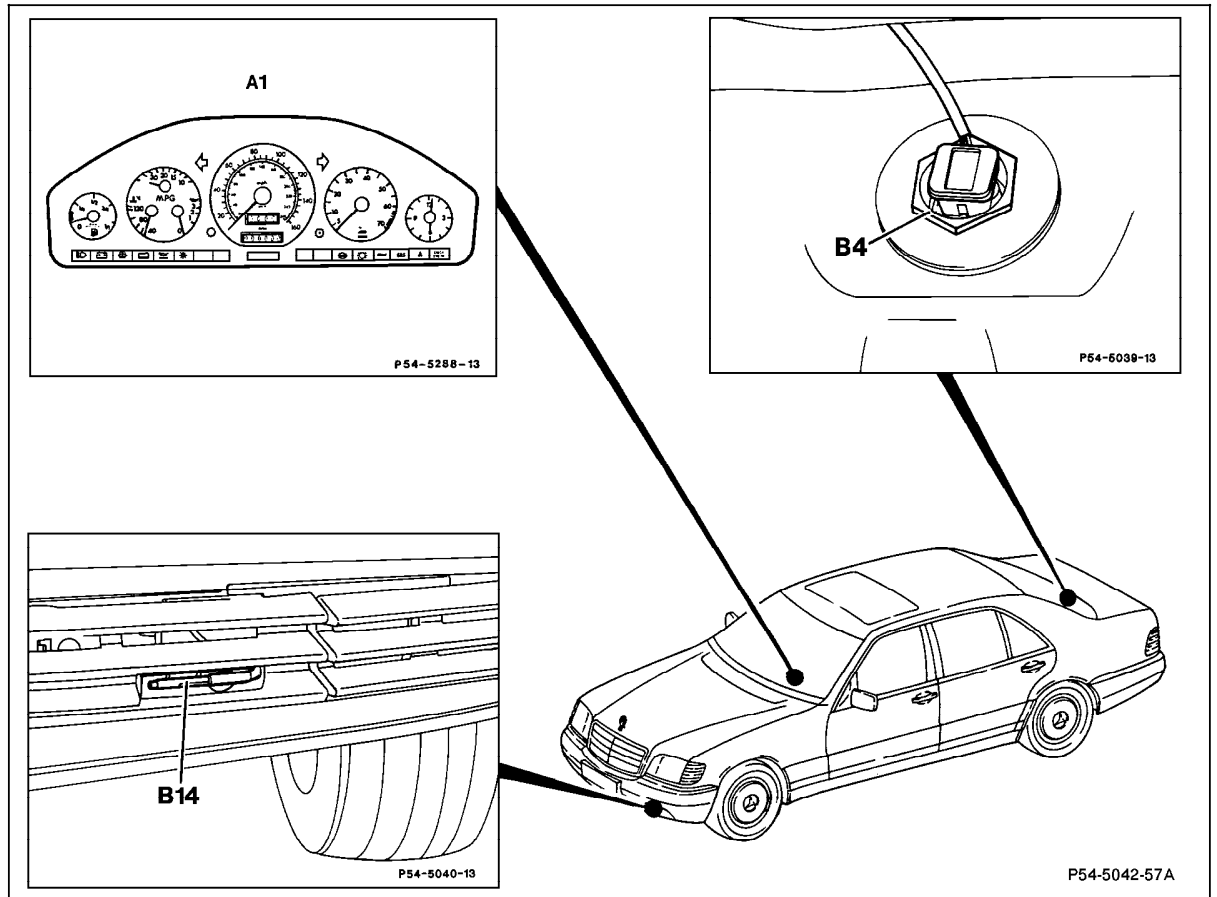

Figure 1
- Depress center of clock adjusting knob “A” ( 23 Fig. 1) for at least 5 seconds and the first test mode display will appear in the outside temperature display window.
- Pull out clock adjusting knob “B” and turn clockwise ( 23 Fig. 1) to activate the next test mode. For each additional test mode, the clock adjusting knob “B” must be pulled out and turned again clockwise.